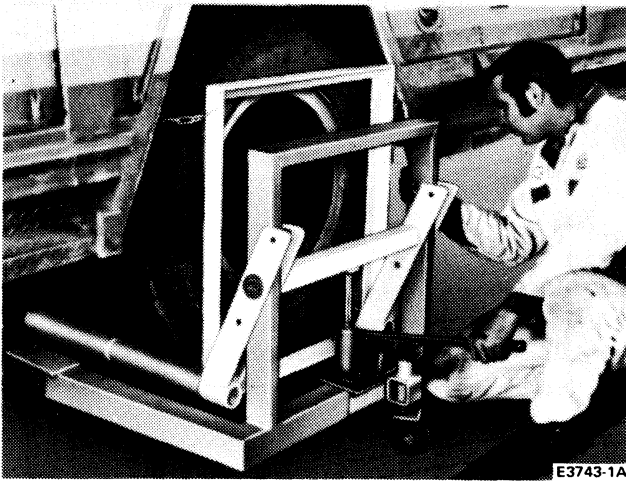

FIG. 3 Heavy Duty Wheel Dolly
6. Using a heavy duty dolly such as the Rotunda model 140030 or equivalent as shown in Fig. 3, raise the wheel to the point that all weight is removed from the wheel bearings.